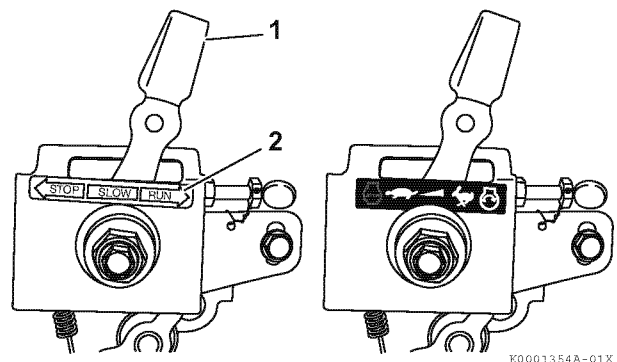

Figure 11
1. If your engine speed control is similar to **Figure 11** slide the engine speed control lever (1, **Figure 11**) to the RUN position (2, **Figure 11**).